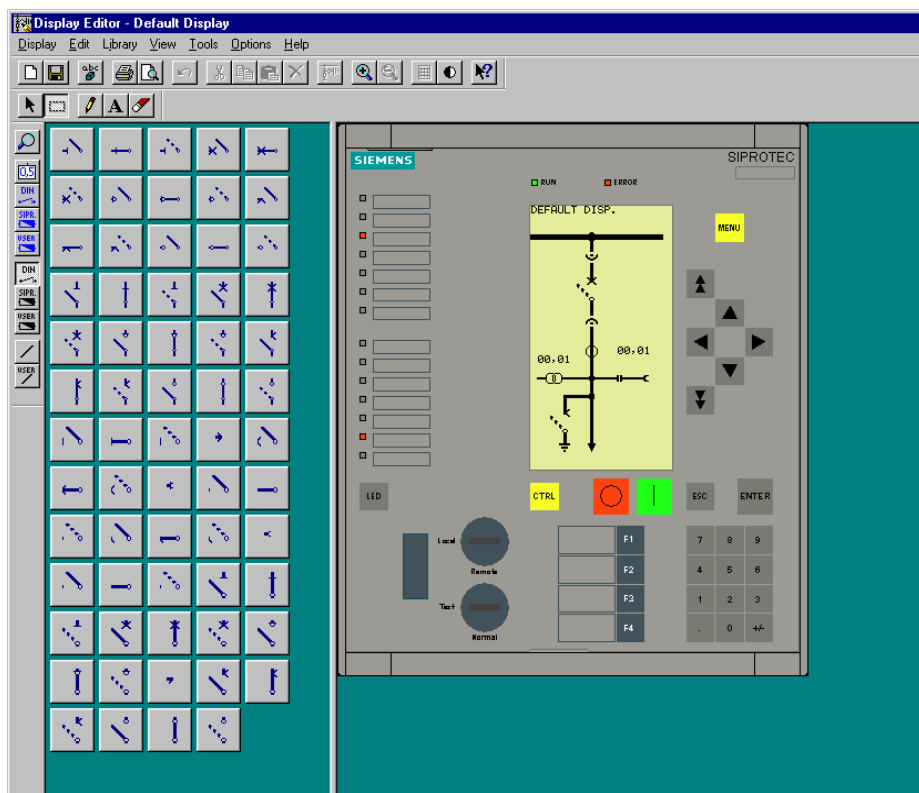

Figure 5-48 Default Display in Normal Size View
- Check the finished default display. The grid may be hidden by clicking **View** → **Grid**, equipment may be selected (brought to the front) by clicking **View** → **Make active**, and a view of the overall relay with default display may be selected by clicking **View** → **Normal size** (see Figure 5-48).